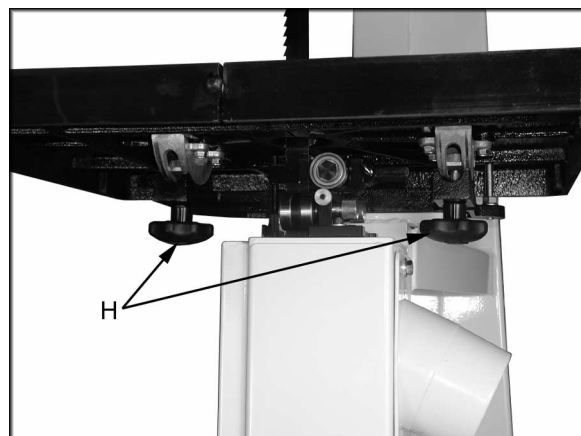

Figure 6
3. Line up the trunnions so that the bolts feed through the trunnion support bracket. Secure the table with two lock knobs (H, Fig. 6). Re-install the table insert and table pin.